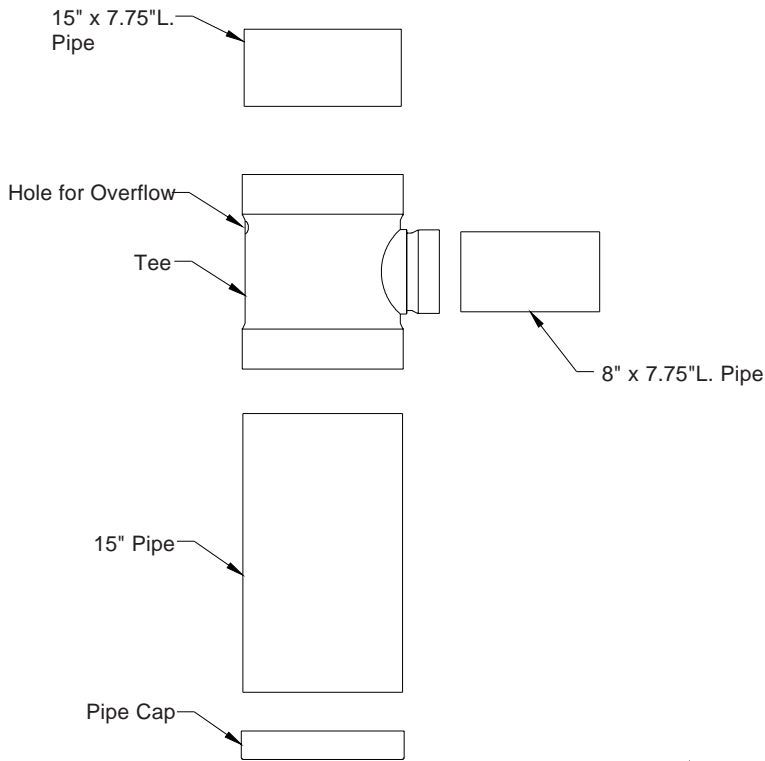
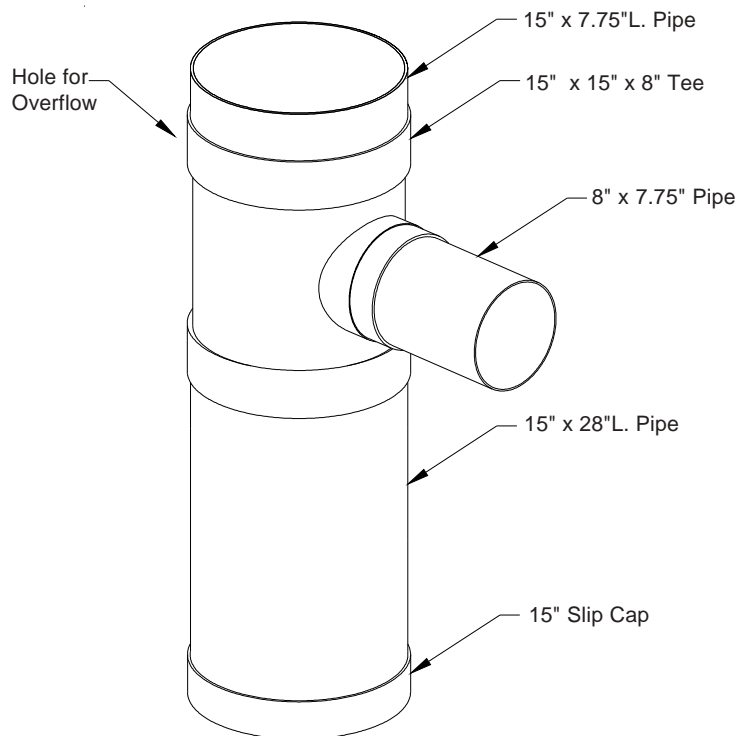

Figure 10A
Figure 10B
13a) Prepare the tee, pipe nipples and pipe cap in accordance to PVC primer and cement directions and assemble the (2) pipe nipples, tee and pipe cap. **See Figure 10A.** For completed assembly, **See Figure 10B.**